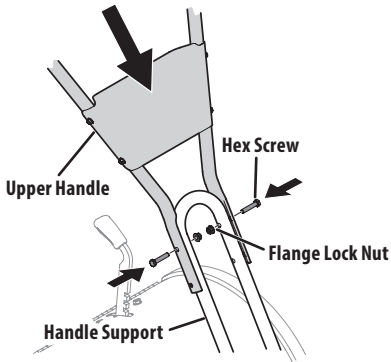

Figure 2
- Using two hex screws and two flange lock nuts, loosely attach the handlebar support using the upper holes. See Figure 2.